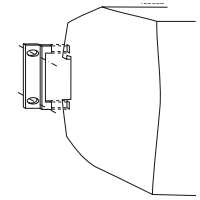

Figure 1. Wall mounting brackets HZZ00618-G (UMB-W)
- Mounting brackets HZZ00618-G (UMB-W), (Figure 1.)